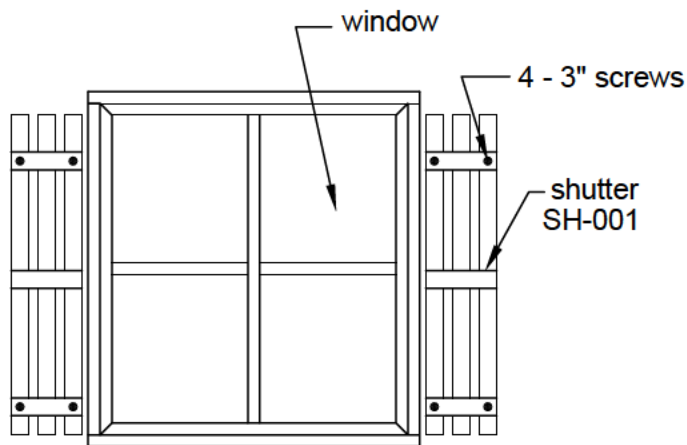

FIGURE S23
- Attach the shutters with 1  $\frac{3}{4}$ " finishing nails. Predrill the shutters with the 1/16" drill bit. See Figure S23.